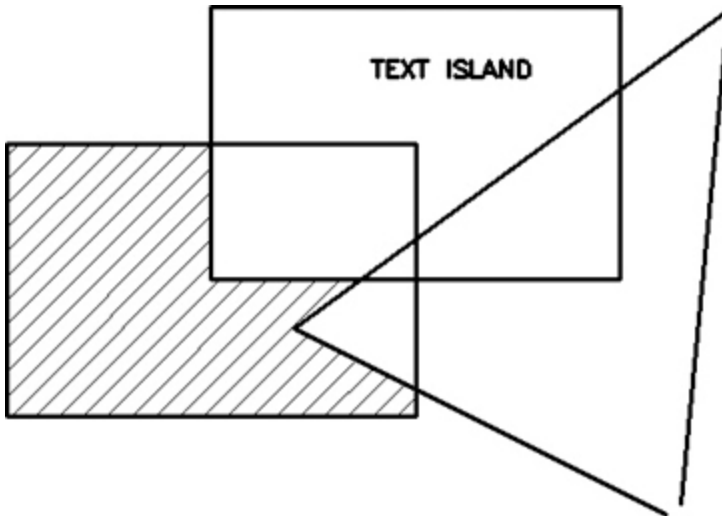

Figure 10-5
- 5 Save the drawing as **CH10_EXERCISE1**. Your drawing should look like Figure 10-5.